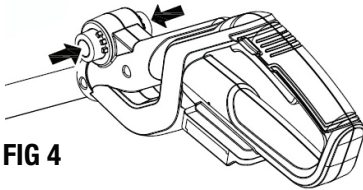

FIG 4
1. Press two buttons with your fingers and hold as shown in Fig 4.